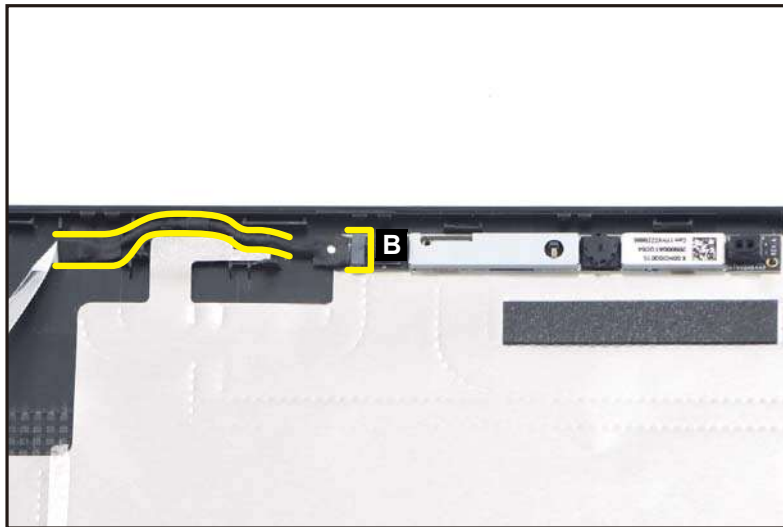

Figure 3-67. LCD Cable Removal
2. Continue to unroute the LCD cable from the cable guides as shown in Figure 3-67.
3. Disconnect the LCD cable from the camera module connector (B) (Figure 3-67).